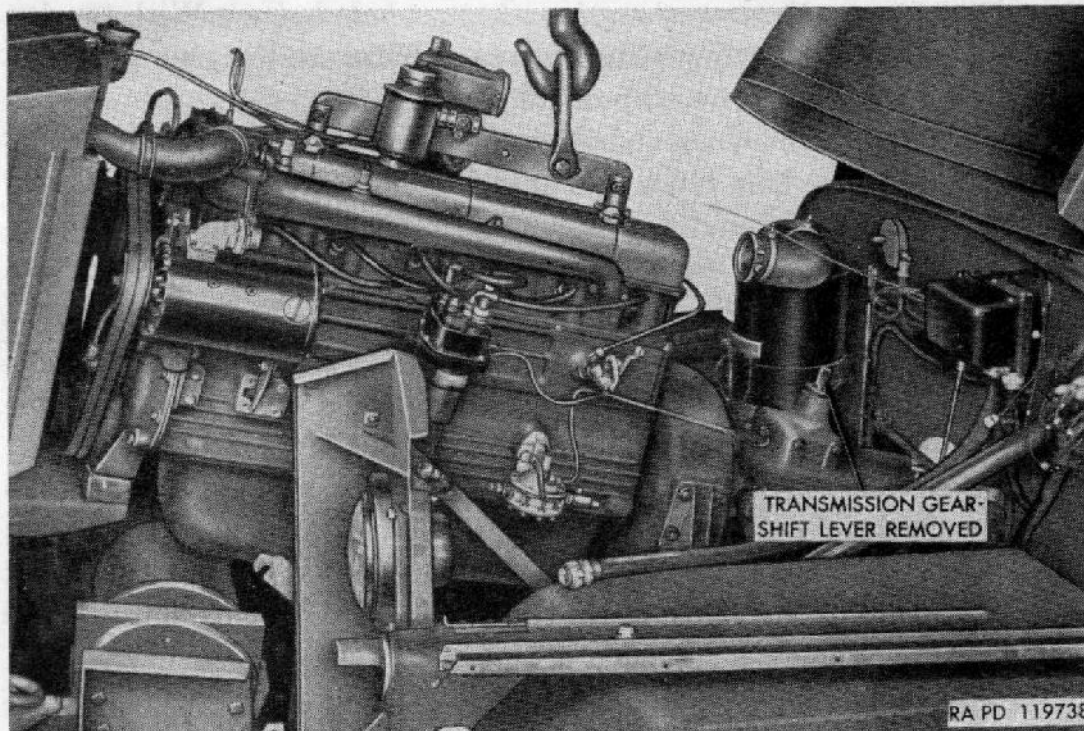

Figure 52. Removing power plant using lifting sling 7950121.
m. REMOVE POWER PLANT (fig. 52).
- (1) *Install engine-and-transmission lifting sling.* Attach engine-and-transmission lifting sling 7950121 to hoist. Center hoist over power plant and attach lifting sling to lifting eyes.
- (2) *Hoist power plant.* Check to be sure all disconnects have been accomplished. Carefully lift power plant, using a series of short lifts, until radiator and engine support will clear. Continue to raise power plant slowly, and at same time pull power toward front (fig. 52). Check to see that all accessories and lines are clear as power plant is being moved upward and forward.
- (1) *Install engine-and-transmission lifting sling* (fig. 52). Attach lifting sling 7950121 to lifting eyes.
- (2) *Lift power plant into truck.* Hoist power plant to clear obstructions and center over truck. Lower and push power plant into engine compartment by series of short drops. Make sure that clearance is ample at all times. Do not rest power plant solidly on supports until (3) and (4) below are accomplished.